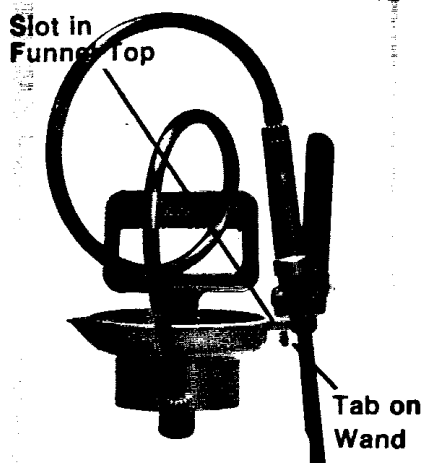

Fig. 10
- G. Store Wand in the slot of Funnel Top (see Fig. 10).